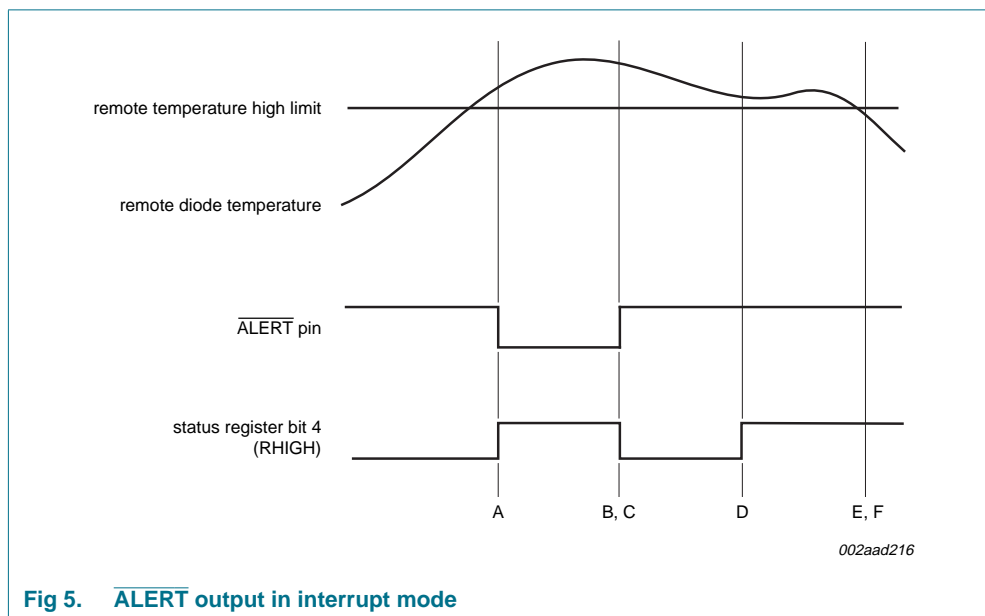

Fig 5. $\overline{\text{ALERT}}$ output in interrupt mode
In the interrupt mode, the $\overline{\text{ALERT}}$ output is used to provide an interrupt signal that remains asserted until the interrupt service routine has elapsed. In the interrupt operating mode, a read of the Status register will set the $\overline{\text{ALERT}}$ mask bit 7 of the Configuration register if any of the temperature alarm bits of the Status register is set, with exception of BUSY (D7) and OPEN (D2). This protocol prevents further $\overline{\text{ALERT}}$ output triggering until the master device has reset the $\overline{\text{ALERT}}$ mask bit at the end of the interrupt service routine. The Status register bits are cleared only upon a read of the Status register by the serial bus master (see Figure 5). In order for the $\overline{\text{ALERT}}$ output to be used as an interrupt, the ALERT Configure bit D0 of the ALERT Mode (AM) register must be set LOW (POR default).